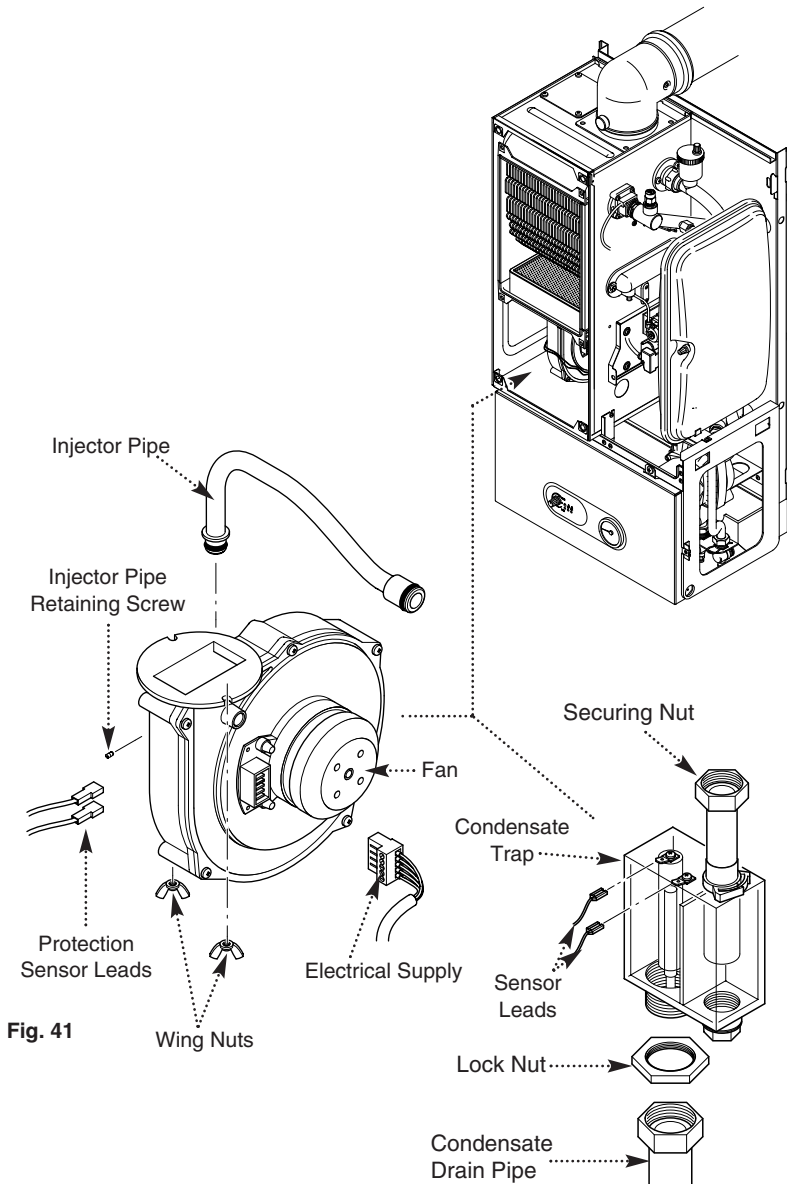

Fig. 42
f) Undo the condensate trap securing nut, lock nut and the condensate drain pipe. Remove the condensate trap and disconnect the sensor leads (Fig. 42).